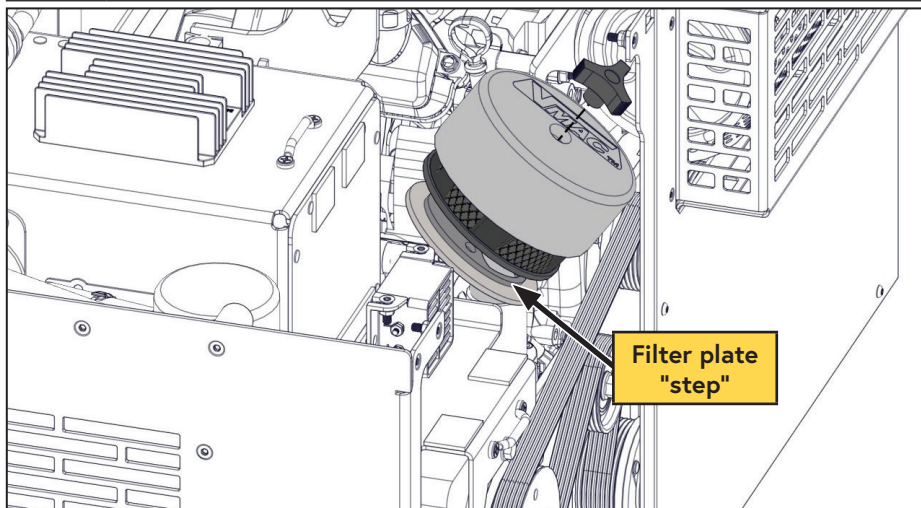

**Figure 29 — Fill oil**
- ☐ Remove the oil fill cap (Figure 29).